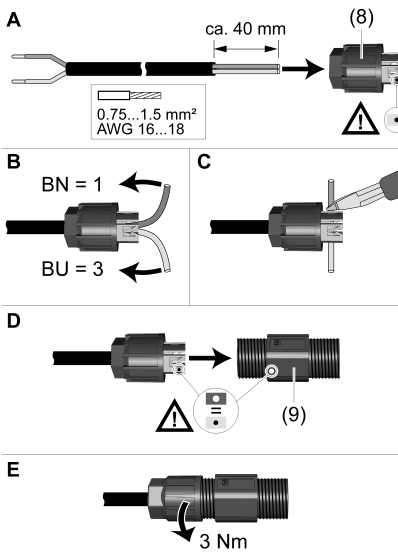

Figure 9: Connecting the supply line
- i** The connectors can be re-connected a maximum of 10 times. Since the contact is made by means of IDC technology, the single conductors that have already been contacted once must be cut off for each new plug-in process and re-threaded into the union nut. This process is identical with the connection of the supply line (Figure 9).